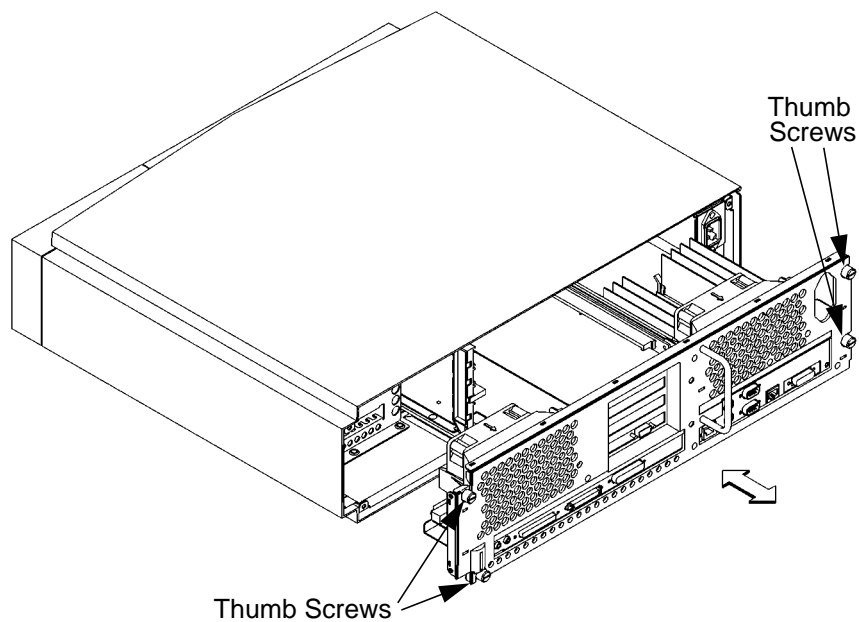

Figure 36 Removing the Main Tray Assembly
- 2 Completely loosen the four thumb screws on the rear of the system unit, as shown in Figure 36.
- 3 Place one hand on the top of the system unit and push, while using your other hand to pull on the handle on the rear panel. See Figure 36.